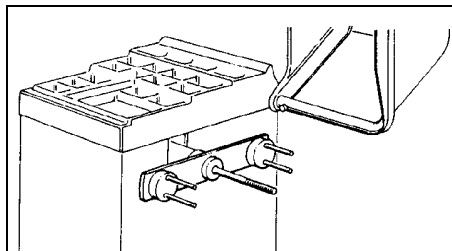

fig.11
- Fig. 11 shows the **motorcycle flange** fixing system.